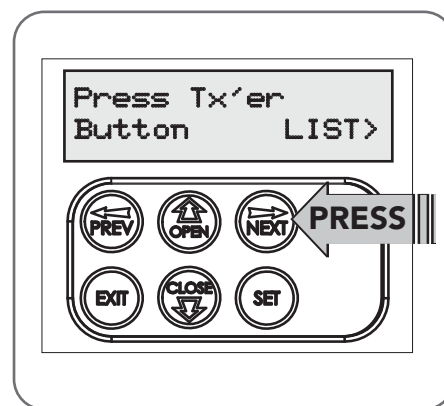

Fig H.1
- Press NEXT to navigate to Menu 1 (**Fig. H.1**).